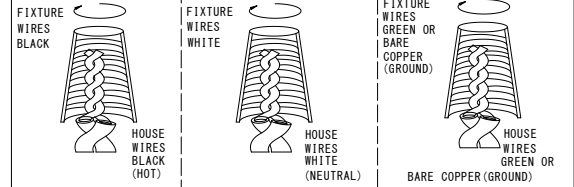

Fig. 3
6. Place back plate (F) over mounting screws (J), followed by rubber gasket (G) and secure to wall using cap nuts (H).
7. Install (1) one medium base bulb (I) up to 100 Watts, or CFL or LED equivalent (not included), in accordance with the fixture specification. **(DO NOT EXCEED THE MAXIMUM WATTAGE RATING) (NE PAS DEPASSER LA PUISSANCE NOMINALE MAXIMALE!)**
8. To prevent moisture from entering outlet box (A) and causing a short, use clear silicone sealant to outline outside of fixture back plate (F) where it meets wall leaving a space at bottom to allow moisture a means to escape. (Fig.3)